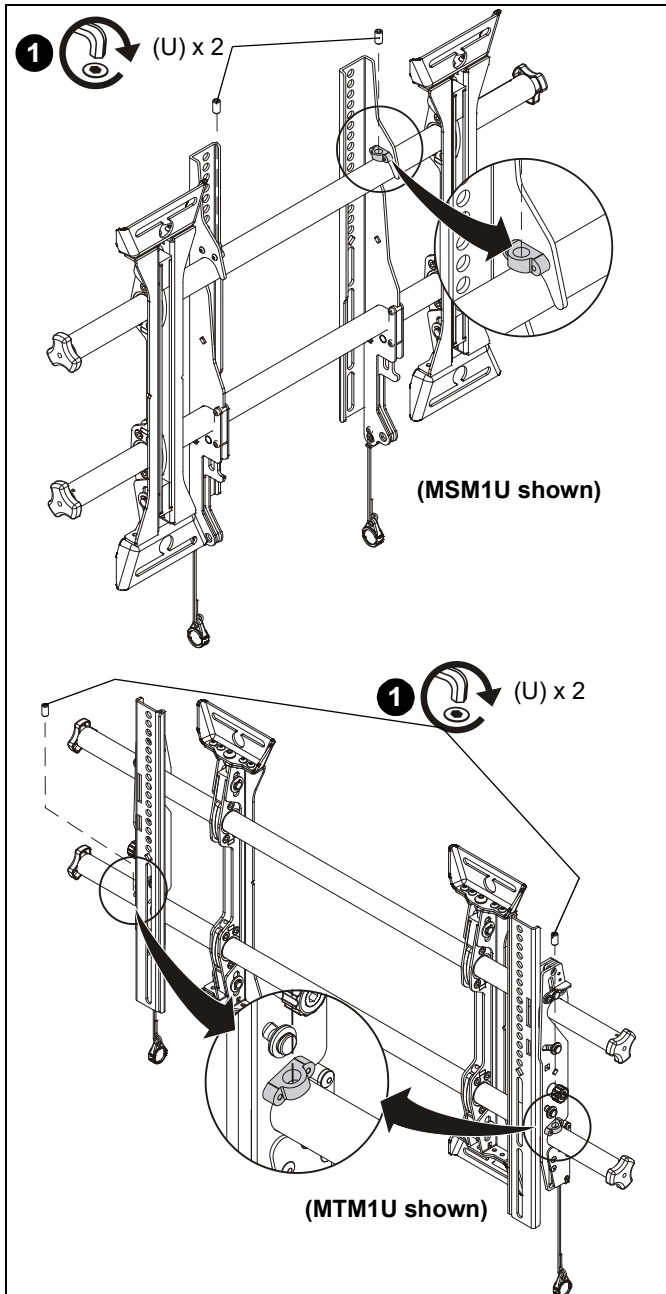

Figure 20
1. Lock screen interface brackets onto mount rails using one 3/8-16 x 3/4" set screw (U) on each interface bracket. (See Figure 20)